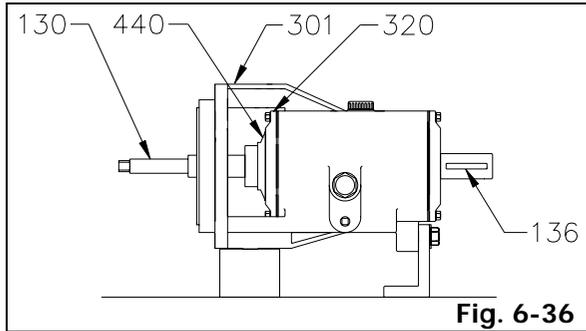

Fig. 6-36
11. For KS-SR, assemble another bearing cover assembly per instructions in steps 7 and 8. Install bearing cover assembly into pump end of bearing bracket (301). Align bolt holes and install four (4) bearing cover bolts into bearing cover (320). Tighten bolts evenly, and install deflector (440) to shaft (130).
12. Install shaft end key (136) on shaft (130) (Fig. 6-36)